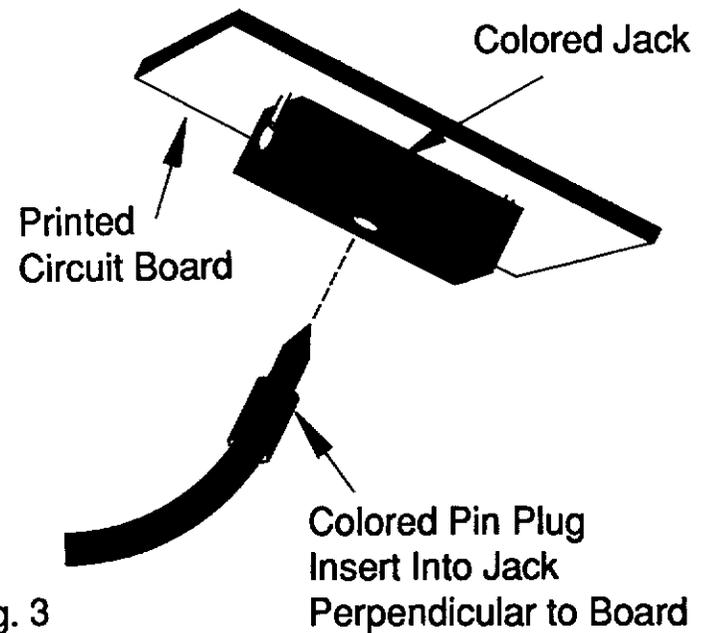

Fig. 3
- 9) Again lift-up the front edge of the interface chassis, and locate the 5 colored jacks (RED, BLUE, BLACK, YELLOW, WHITE) on the printed circuit board. Plug the array wires into these jacks, PERPENDICULAR TO THE BOARD, following the color code. Refer to Figure 3.